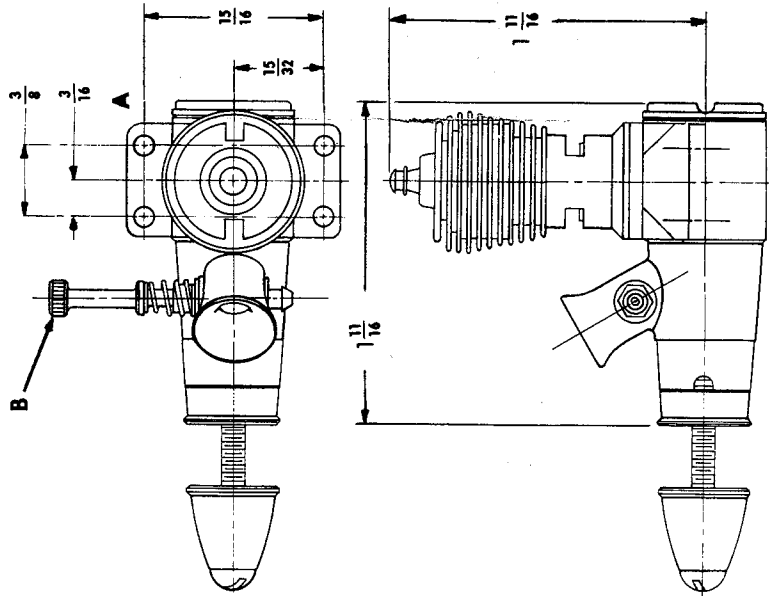
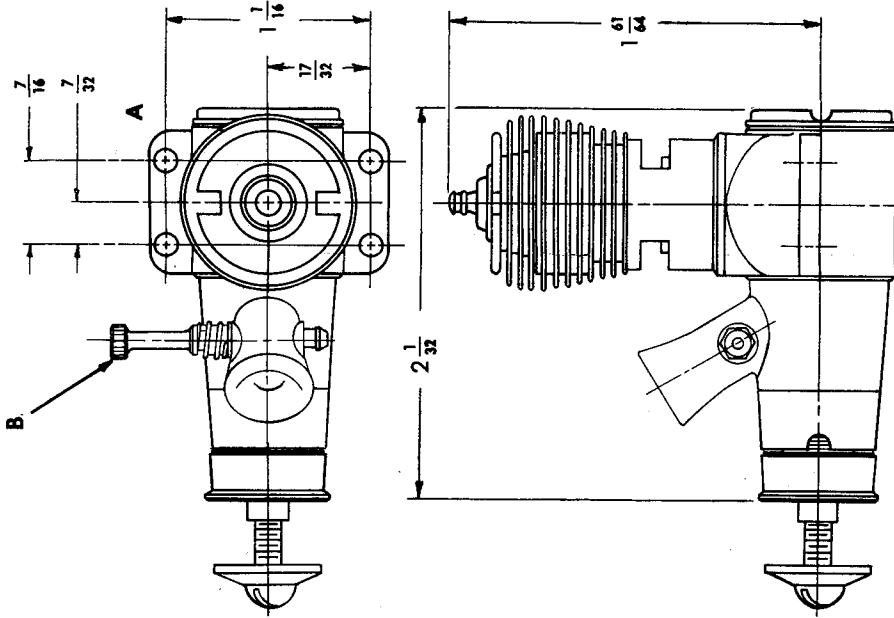
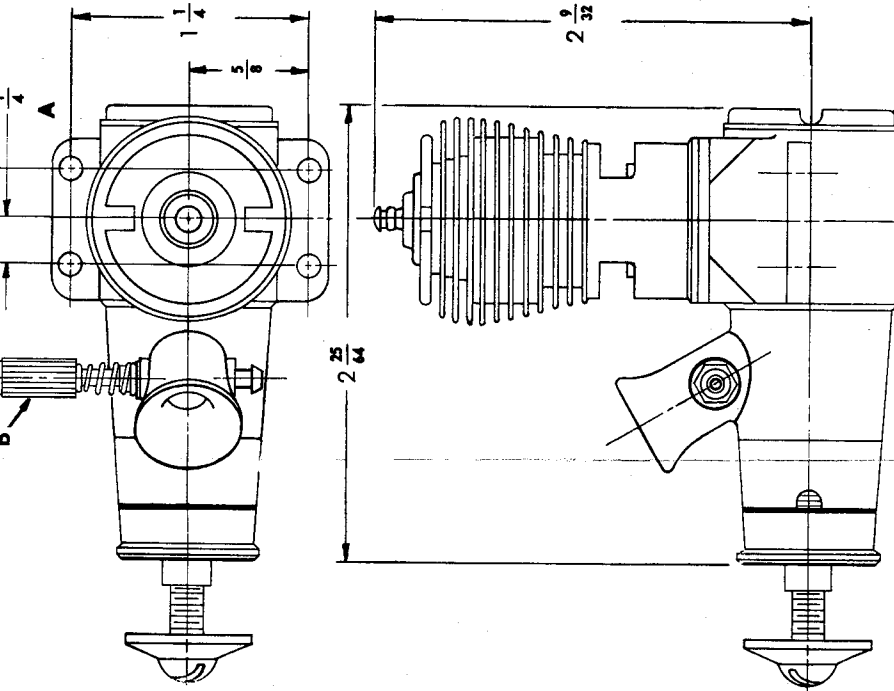

FIG. 2
FIG. 3
FIG. 4
1. Mount the engine in the plane, or if you want to give it some running first, mount it on a suitable motor. Do not hold the engine directly in a vise. Use A-Fig. 2, A-Fig. 3 or A-Fig. 4 as a template to drill mounting holes.
1. Close the carburetor needle valve, B-Fig. 2, B-Fig. 3, or B-Fig. 4, by turning it clockwise until it stops. Do not force it.